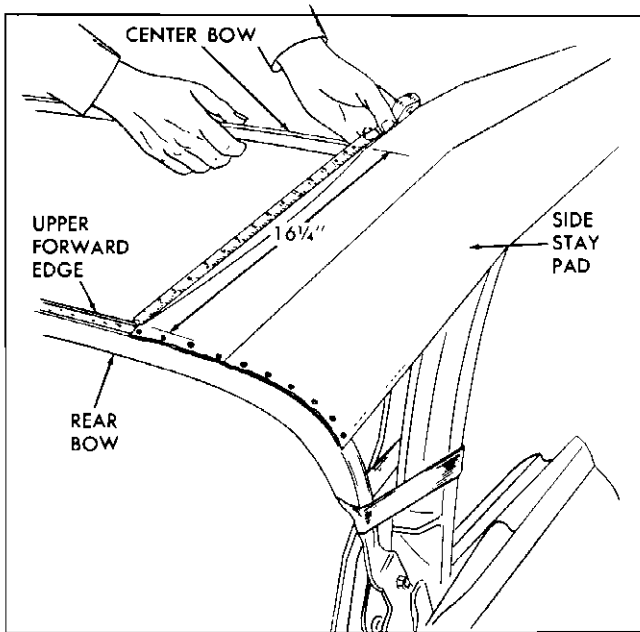

Fig. 7-29 Position of Rear Bow
4. Trim selvage end of side stay pads just forward of rear rolled edge of rear roof bow (Fig. 7-29).
5. Distance from center of center bow to rolled forward upper edge of rear roof bow is $16\frac{1}{4}'' (\pm\frac{1}{4}'')$. Readjust spacer sticks and side roof rail pads as required if rear bow does not come within this position range (Fig. 7-29).